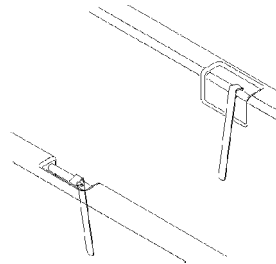

Fig. 3. Fit the guide straps.
- c.) Fitting guide straps - where bathtub grasp bars are present. The Bath Lift can be damaged if Guide Straps are not fitted to the bathtub grasp bars correctly. (Ref. to Fig. 3.)